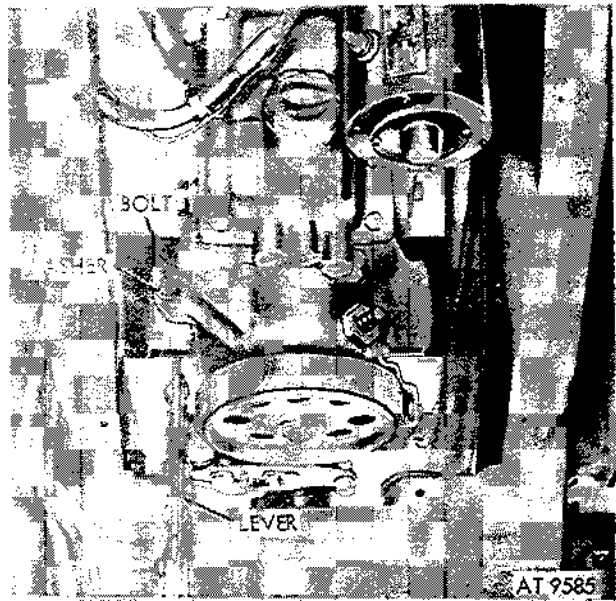

Figure 2-54. Rear support mounting bolts and washers.
(1) Remove front seats (para 2-198).
(2) Remove transmission plate (para 2-199).
(3) Remove two rear support mounting bolts and washers (fig. 2-54).